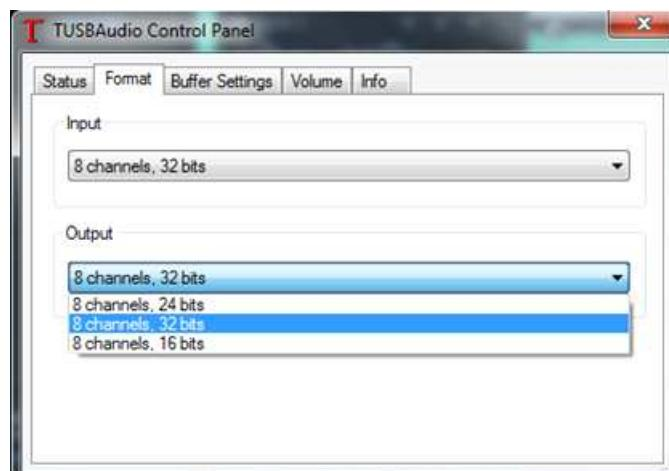

图 5. Texas Instruments Audio Control Panel
10. Set the bit depth as desired using the *Texas Instruments Audio Control Panel*, which is accessible from the system tray shown in 图 5.
8. Set the bit depth as desired using the Texas Instruments Audio Control Panel accessible from the system tray shown in 图 5.